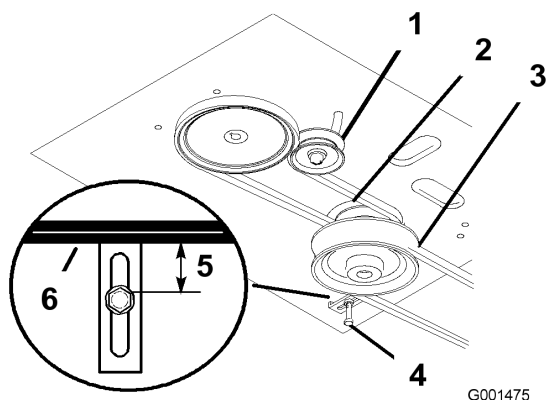

Figure 31
4. Remove the mower belt (Figure 31).
- Loosen the pivot bolt enough to slide the idler pulley in the slot and remove the traction belt from the engine and the drive pulleys (Figure 31).
- Install the new drive belt around the engine and the drive pulleys (Figure 31).
- Slide the idler pulley in the engine frame to tension the traction belt (Figure 31).
- Install the mower belt (Figure 31).
- Check the belt guide under the engine frame for the proper adjustment (Figure 31).
13. Check the belt guide under the engine frame for the proper adjustment (Figure 31).